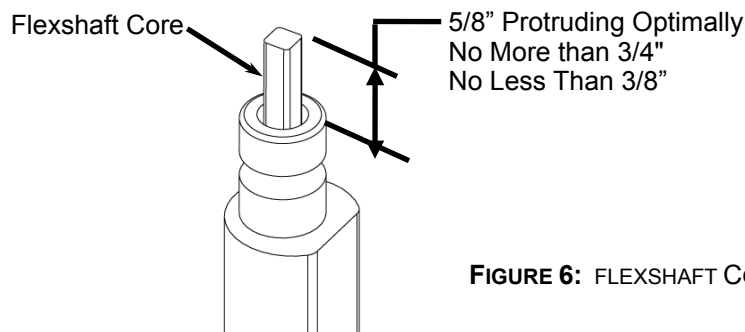

FIGURE 6: FLEXSHAFT CORE ASSEMBLY INTO
4. **Prepare the flexshaft assembly:** Remove the plastic wrapping and rubber band from the end of the flexshaft assembly. Gently pull the protruding flexshaft core (with squared end) out of the sheath several inches. Holding the end vertically, push the core back into the sheath and make sure that it slips into, and engages, the cutting motor. It will drop into the receptacle on the motor side about $\frac{5}{8}$ ths of an inch. Turn the core by hand and feel for resistance of the motor. If the shaft spins without resistance, push the core inward while rotating until it drops into the slot and engages the motor. The flexshaft core should appear as in Figure 6.